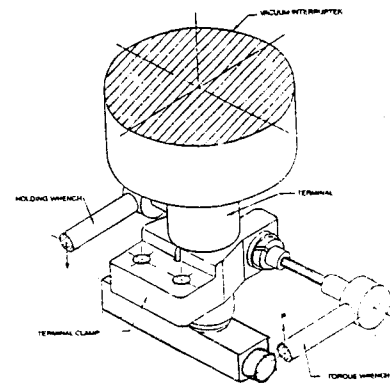

Figure 51: Tube Clamp Fastening Procedure.
- 17.2 Using procedure shown in **Figure 51** and torque limits established in **Table 7** secure tube clamp hardware.